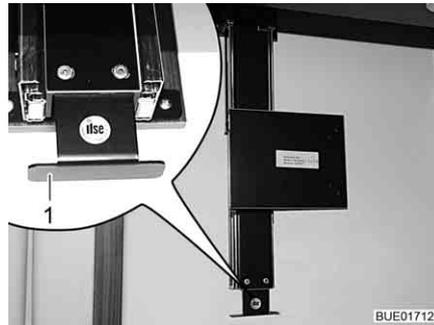

Fig. 64 Holder behind wall-mounted cupboard
- Use handle (Fig. 64, 1) to pull extension downwards to the stop.